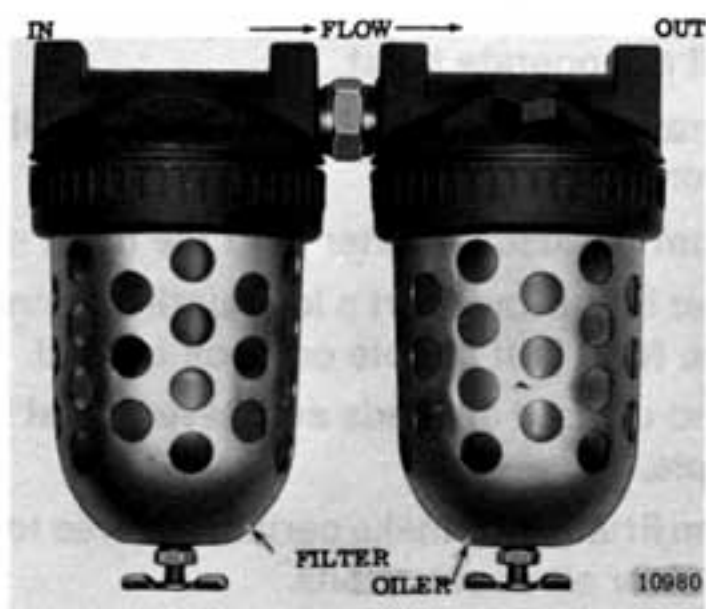

Figure 2-2. Air Filter and Lubricator Unit.
- c. A filter and lubricator unit (Figure 2-2) must be installed between air source and air hose leading to hoist. These keep air flowing to hoist free of dirt and add lubricant to air so internal parts of motor are constantly lubricated. Use a good grade of spindle oil, approximate viscosity 180 ssu at 100° F., air powered tool oil, or S.A.E. 10W machine oil. **CM** distributors can provide filter-lubricator units.